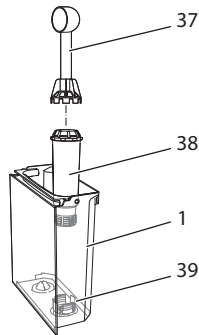

Fig. 18: Screwing/un screwing the water filter
- Remove the water filter when the appliance requests you to do so (see Fig. 18).